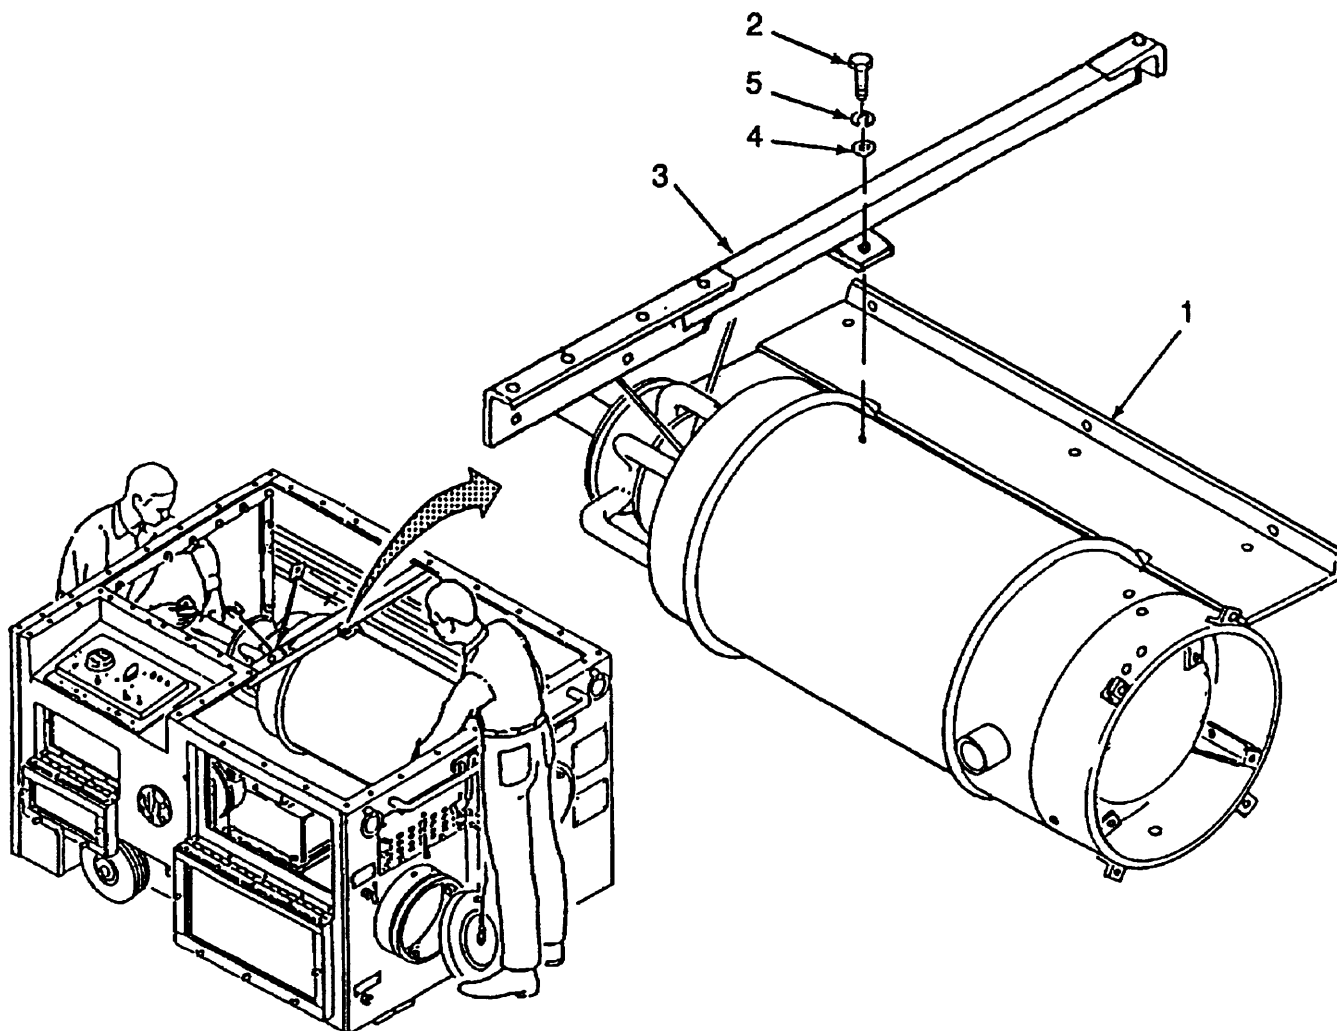

Figure 5-18. Heat Exchanger, (Model H120) Installation
f. Installation (Refer to Figure 5-18)